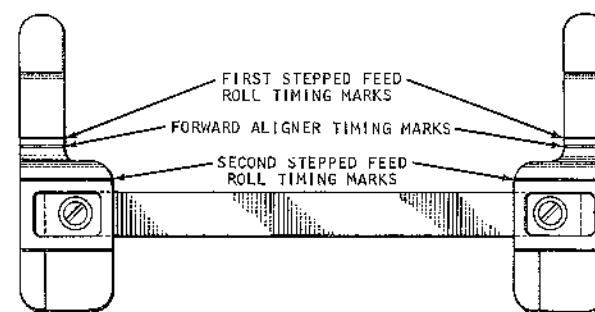
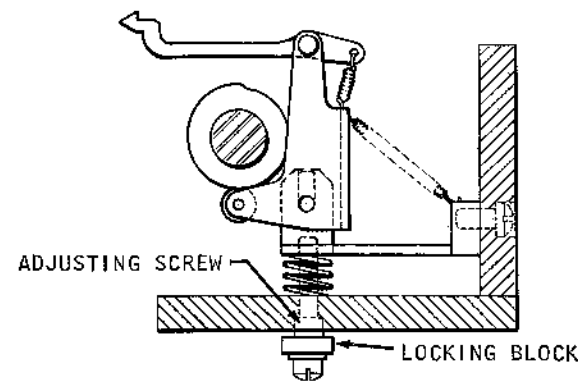

Figure 37. Gage 608183
Figure 39. Forward Aligner Adjustment
7. Continue turning with the clutch engaged until the machine index is at $339^\circ \pm 1^\circ$. At this time the leading edge of the card should not have moved past the "first stepped feed roll timing marks" on the gage (Figure 37).
8. Continue turning the machine and check to see that the card finishes forward aligning to within .005" of the "forward aligner timing marks" on the gage at 351° (Figure 37). This second check makes certain that the card is properly aligned at the time the intermittent roll closes.
6. Adjust the forward aligners to position the card evenly within .005" of the "forward aligner timing marks" on the gage (Figure 37). Adjust each forward aligner by loosening the screws in the locking block just enough to allow turning the adjusting screw with an Allen wrench (Figure 39). The locking block serves as a support for the adjusting screw and adjustment cannot be made accurately if the block is loosened too much.
5. The leading edge of the card should coincide within .005" of the "second stepped feed roll timing marks" on the gage (Figure 37).